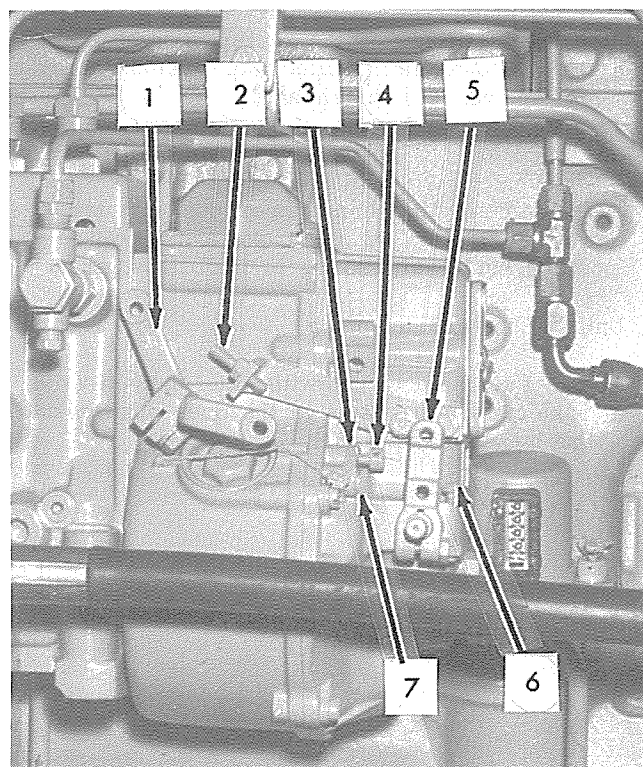

Fig. 13 Engine Speed and Shut-off Adjustment (T-76387)
- a. Refer to Fig. 13. With engine running, loosen the jam nut on the low idle adjusting screw. Hold governor speed control lever so control lever stop contacts the low idle adjusting screw. Turn the idle adjusting screw as necessary to increase or decrease low idle speed.
- a. Remove the flat head screw seal, Fig. 13 (7) from the securing link of the high idle adjusting screw. Remove flat head screw securing the link and remove link in order to gain access to the high idle adjusting screw jam nut.
- c. Place link Fig. 13 (3) in position and secure with flat head screw.
- a. Disconnect control linkage from shut-off lever, Fig. 13 (1). Loosen jam nut on stop screw (2) and turn stop screw out several turns.
- b. Hold shut-off lever (1) in the extreme stop position. Turn the stop screw (2) until it contacts the shut-off lever, then turn the screw for one additional turn and lock with the jam nut.